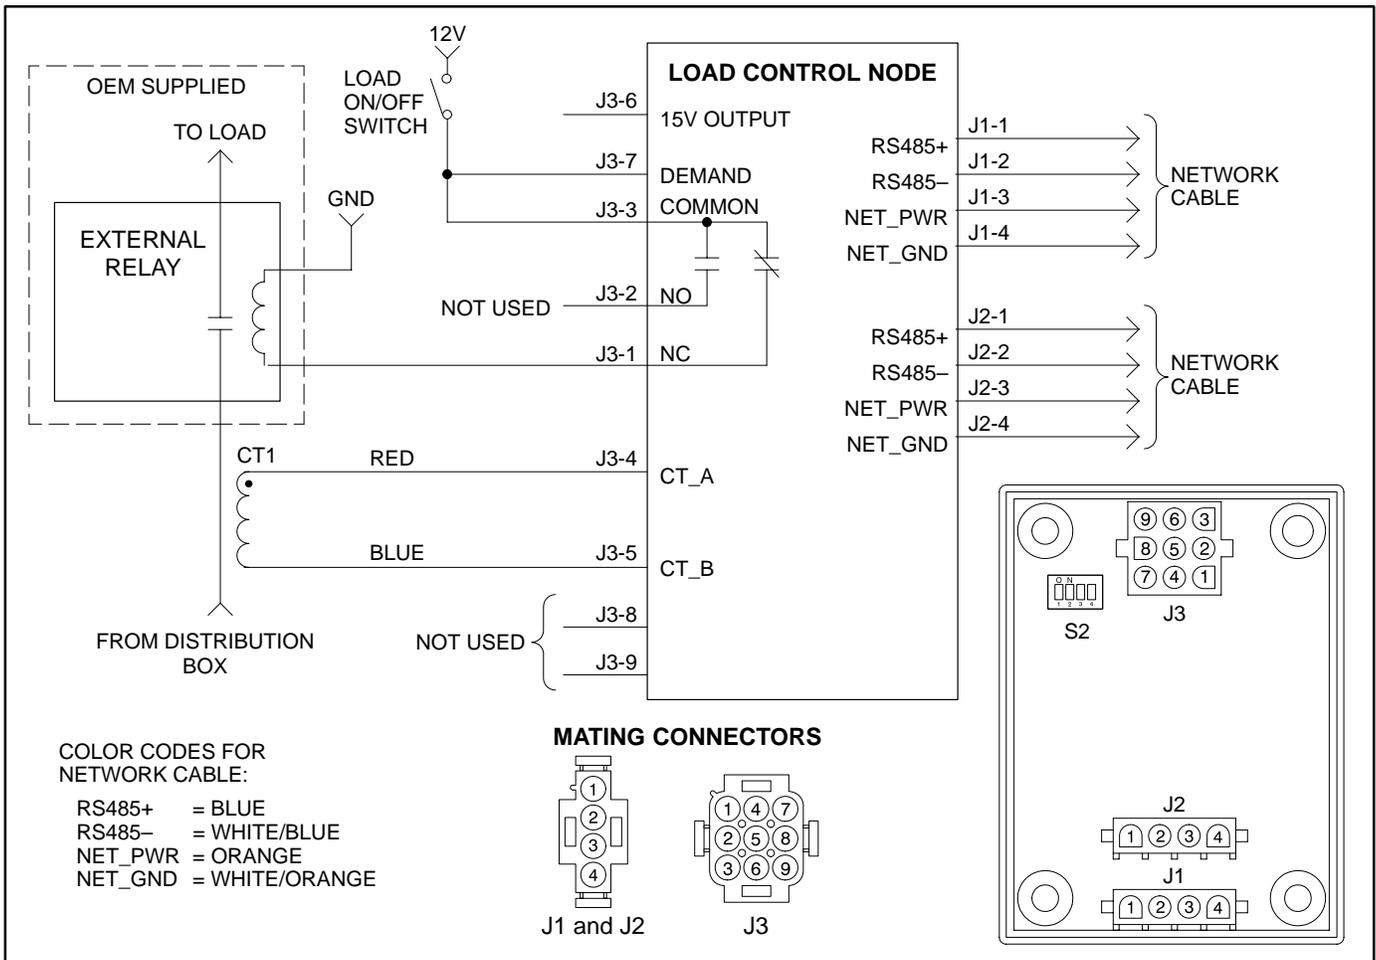

FIGURE 6-2. LOAD CONTROL WIRING DIAGRAM
- Refer to the wiring diagram (Figure 6-2) to route wires from the device to the Load Control Node, and from the Load Control Node to the next node on the network.